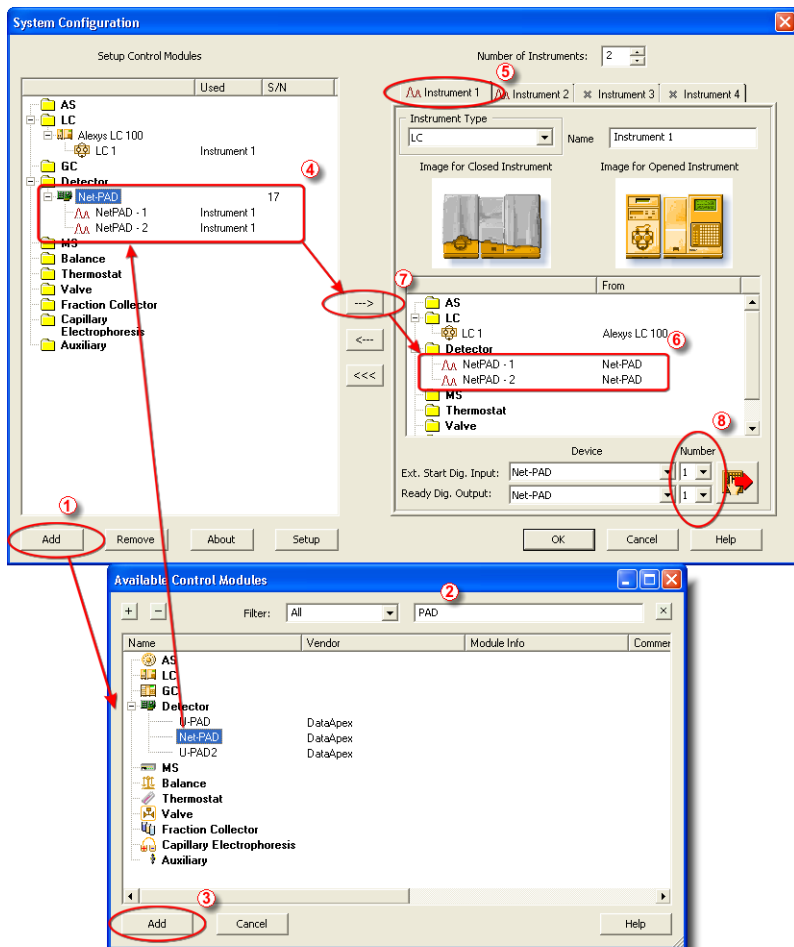

Fig. 8: System Configuration
- Press the **Add** button (1) (See Fig. 8 on pg. 12.) to invoke the *Available Control*